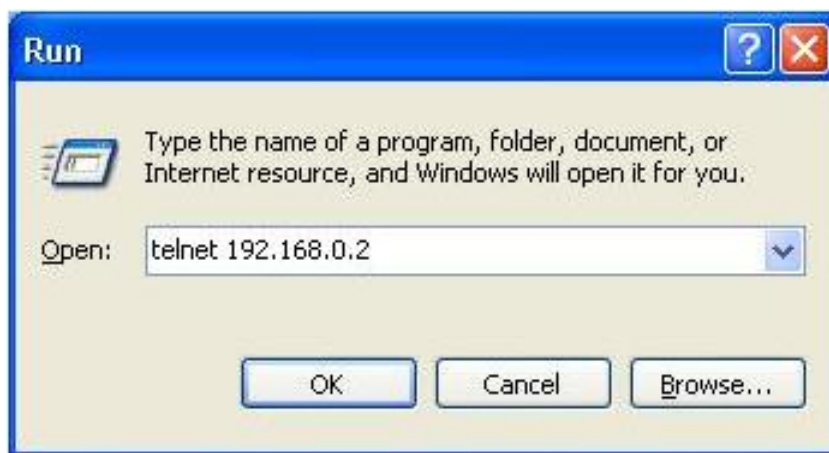

Figure 30 Access through Telnet
Step 2: Enter "telnet *IP address*" in the Run dialog box, as shown in Figure 30. The default IP address of a Kyland switch is 192.168.0.2.